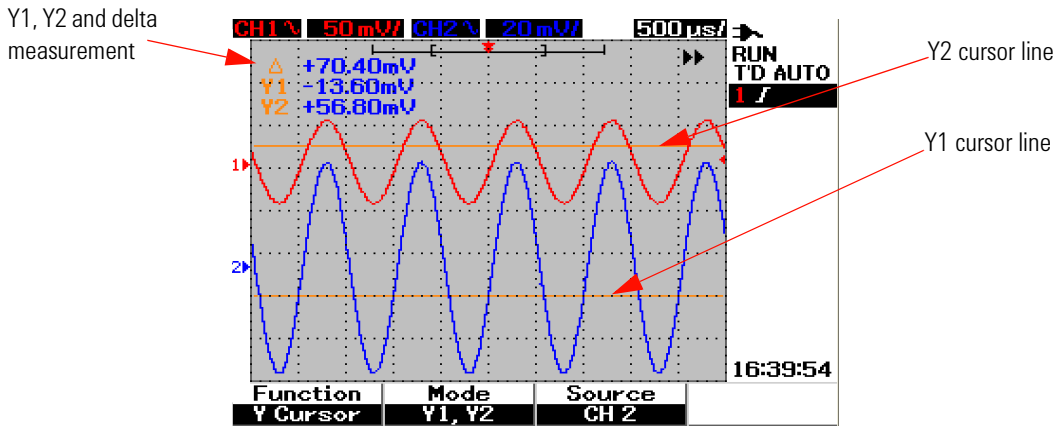

Figure 3-35 Y-cursor measurement for channel 2 signal with X1 and X2 cursor lines
- 6 In Figure 3-35, math function is selected and the result is displayed in red at the top right of the waveform display area.